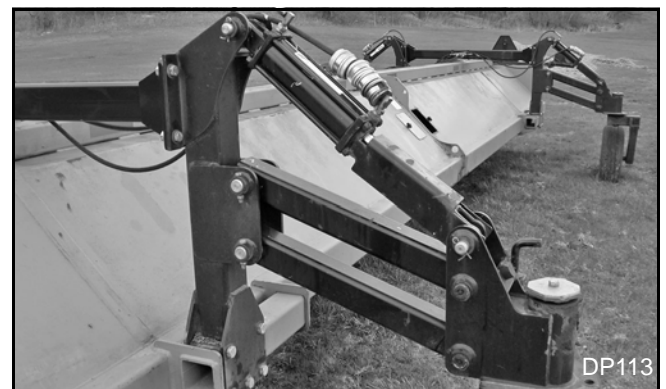

Figure 32. Pivot Tube Lubrication Points
3. Lubricate pivot tube (2 locations each pivot tube). See Figure 32.